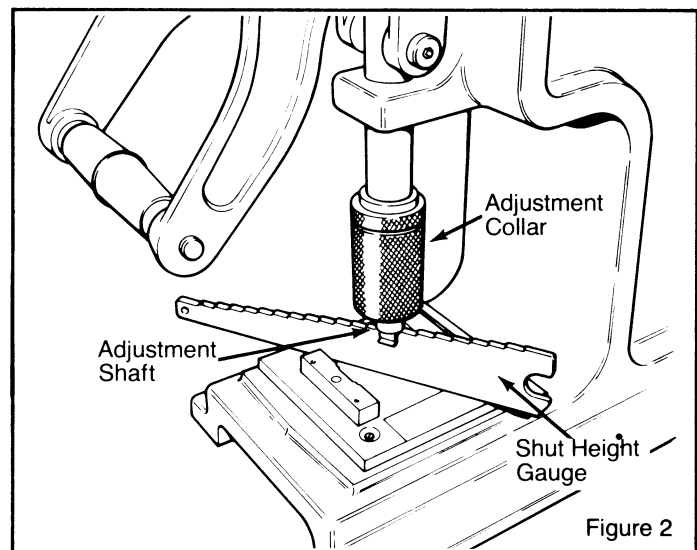

Figure 2
4. Place the #3436-1A shut height gauge supplied with the assembly press across the locator plate and rotate the knurled adjustment collar until the adjustment shaft contacts the desired position on the gauge. The shut height gauge should be able to slip with slight resistance. (see figure 2)